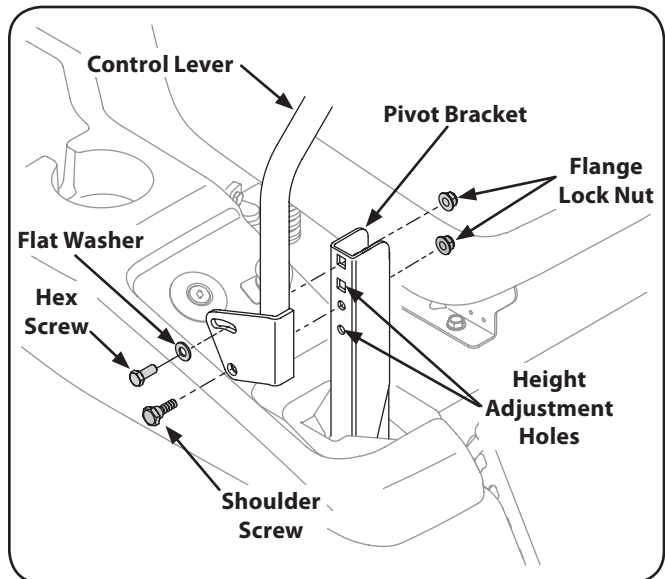

Figure 6-5
2. While supporting the control lever to keep it from falling, remove the hex insert flange lock nut and shoulder screw from the bottom of the control lever and pivot bracket. Refer to Figure 6-5.
1. If not already loose, loosen the flange lock nut and rotate the control lever either forward or rearward to the desired position. See Figure 6-5.